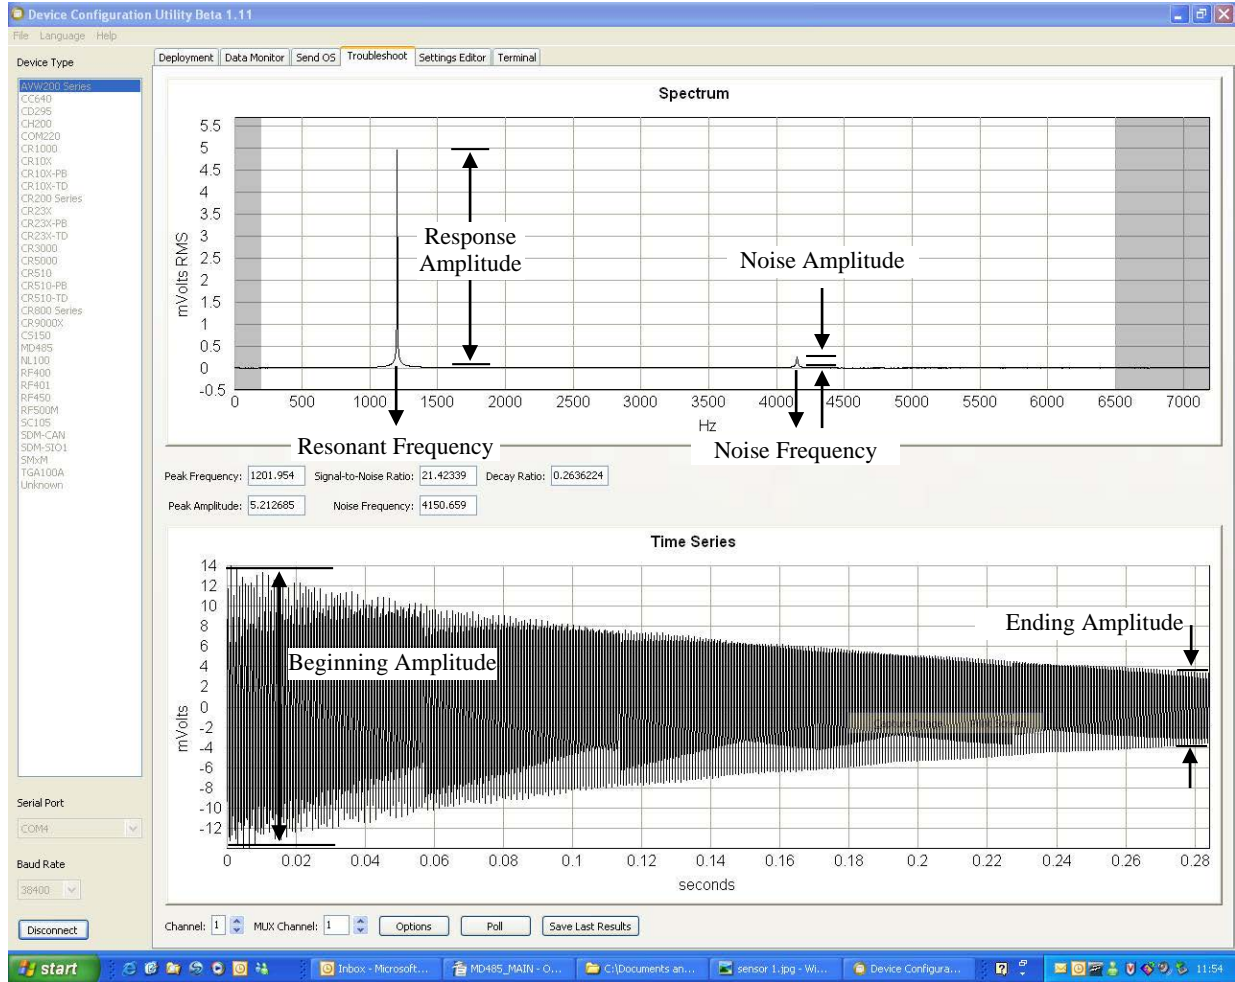

FIGURE 5-9. Graphs for Evaluating Spectral Analysis of a Sensor
5. Once the appropriate settings have been specified, click OK on the Options window and click the Poll tab at the bottom of the Troubleshoot window. The results of the Poll will be displayed on a Spectrum graph and a Time Series graph (see FIGURE 5-9).
In FIGURE 5-9, the bottom graph shows the raw time series data recorded from a vibrating wire sensor after the sensor has been excited with the frequency swept voltage signal and the top graph shows the spectrum after the AVW200 has applied the FFT. In addition to the wire’s resonant frequency, the spectrum shows the response amplitude, noise amplitude, and noise frequency. The AVW200 computes the signal-to-noise ratio diagnostic by dividing the response amplitude by the noise amplitude. The AVW200 computes the decay ratio diagnostic from the time-series ending amplitude divided by the beginning amplitude.